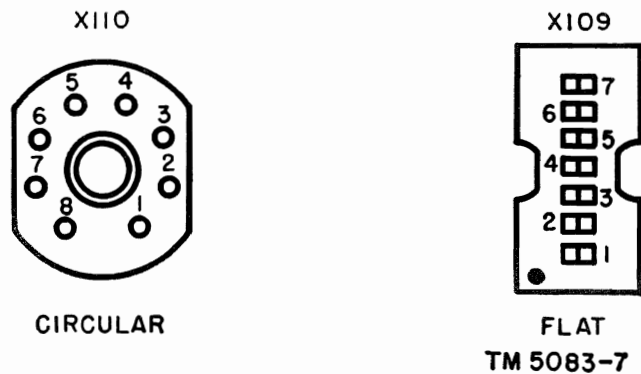

Figure 6. Top view of sockets X109 (flat) and X110 (circular).
- (1) Subminiature tubes of the round type with short wire leads or pins are tested in the TV-7/U with special socket X110. This circular socket has eight numbered contacts (fig. 6).
- (2) Subminiature tubes of the flat or inline-contact type with pins or leads are tested in flat socket X109 (fig. 6). The tube pins or leads must be inserted so that the dot on the base of the tube is directly in line with the small molded dot on the socket.